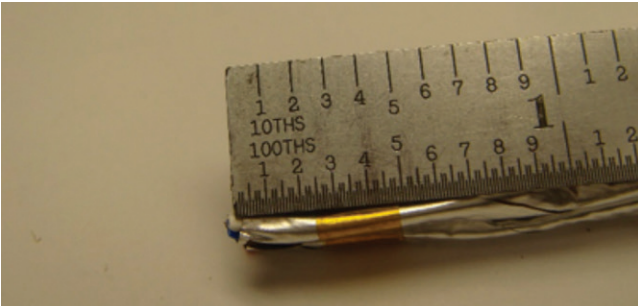

Figure 14: Taping each pair
8. Cut four pieces of polyimide tape that are 0.50-inch long. Wrap a piece of the tape around each pair 0.25 inch from the end of the cable, keeping the foil wrapped as tight as possible (Figure 14).